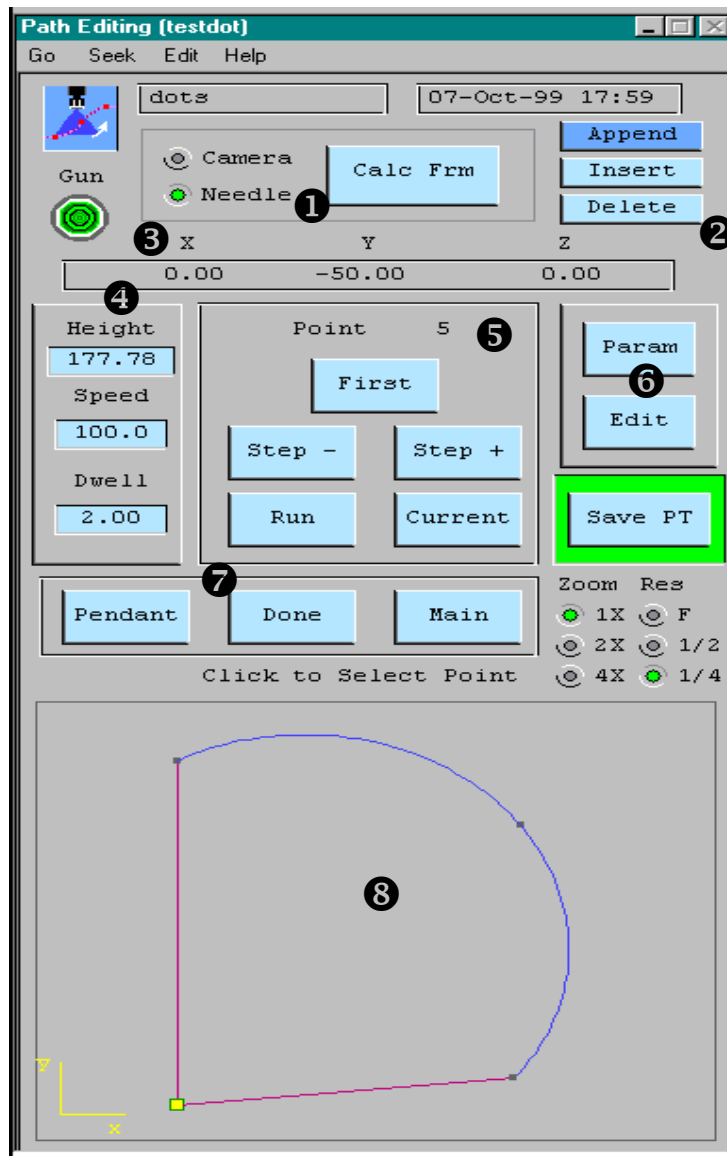

Figure 3-7. Path Editing Menu
- Press **Path Edt** to branch to the Path Editing menu. This menu allows the user to move to positions and test run the path. Additionally, this menu allows the new vision editing features in PathWare (see **Figure 3-7** for more details).